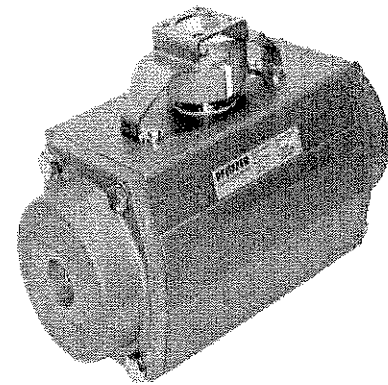

Fig. 1 · Pfeiffer Type AT Pneumatic Rotary Actuator
- **Type SRP** (Fig. 1) · Pneumatic Rotary Actuator, single acting with spring-return mechanism in sizes 15 to 5000